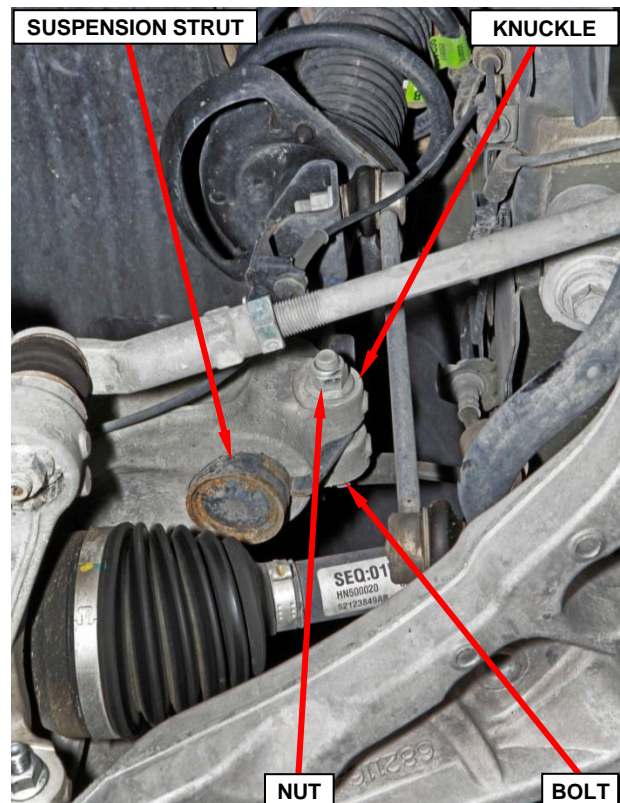

Figure 15 – Front Suspension Strut
19. Front suspension strut to the knuckle fasteners on the left and right side of the vehicle. Hold the bolt while tightening the nut to 81 ft. lbs. (110 N·m) (Figure 15).